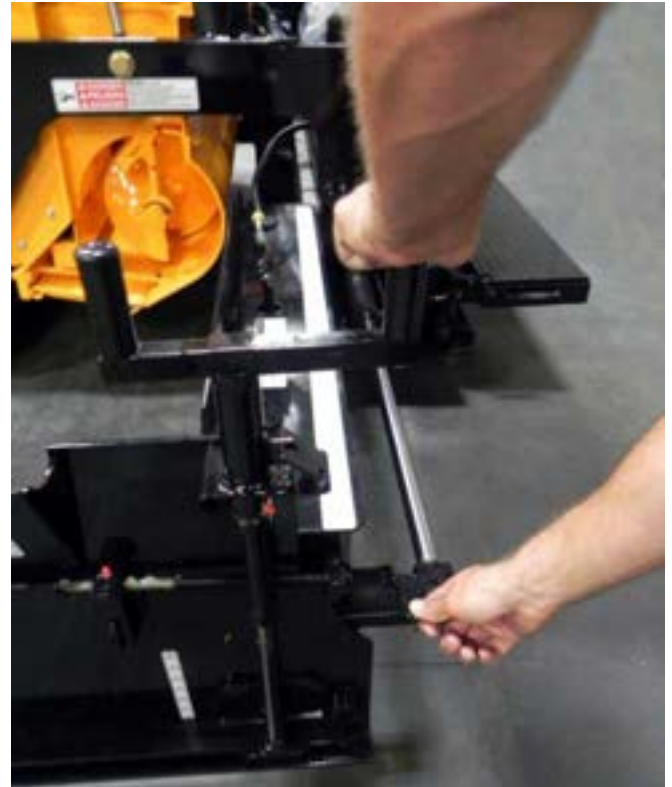

Figure 4-46. Endgate Tilt Screw Adjustment
6. Turn the tilt screw so the front of the endgate tilts down slightly when the screed is lifted. This will allow the endgate to set itself to the grade. **(Figure 4-46)**